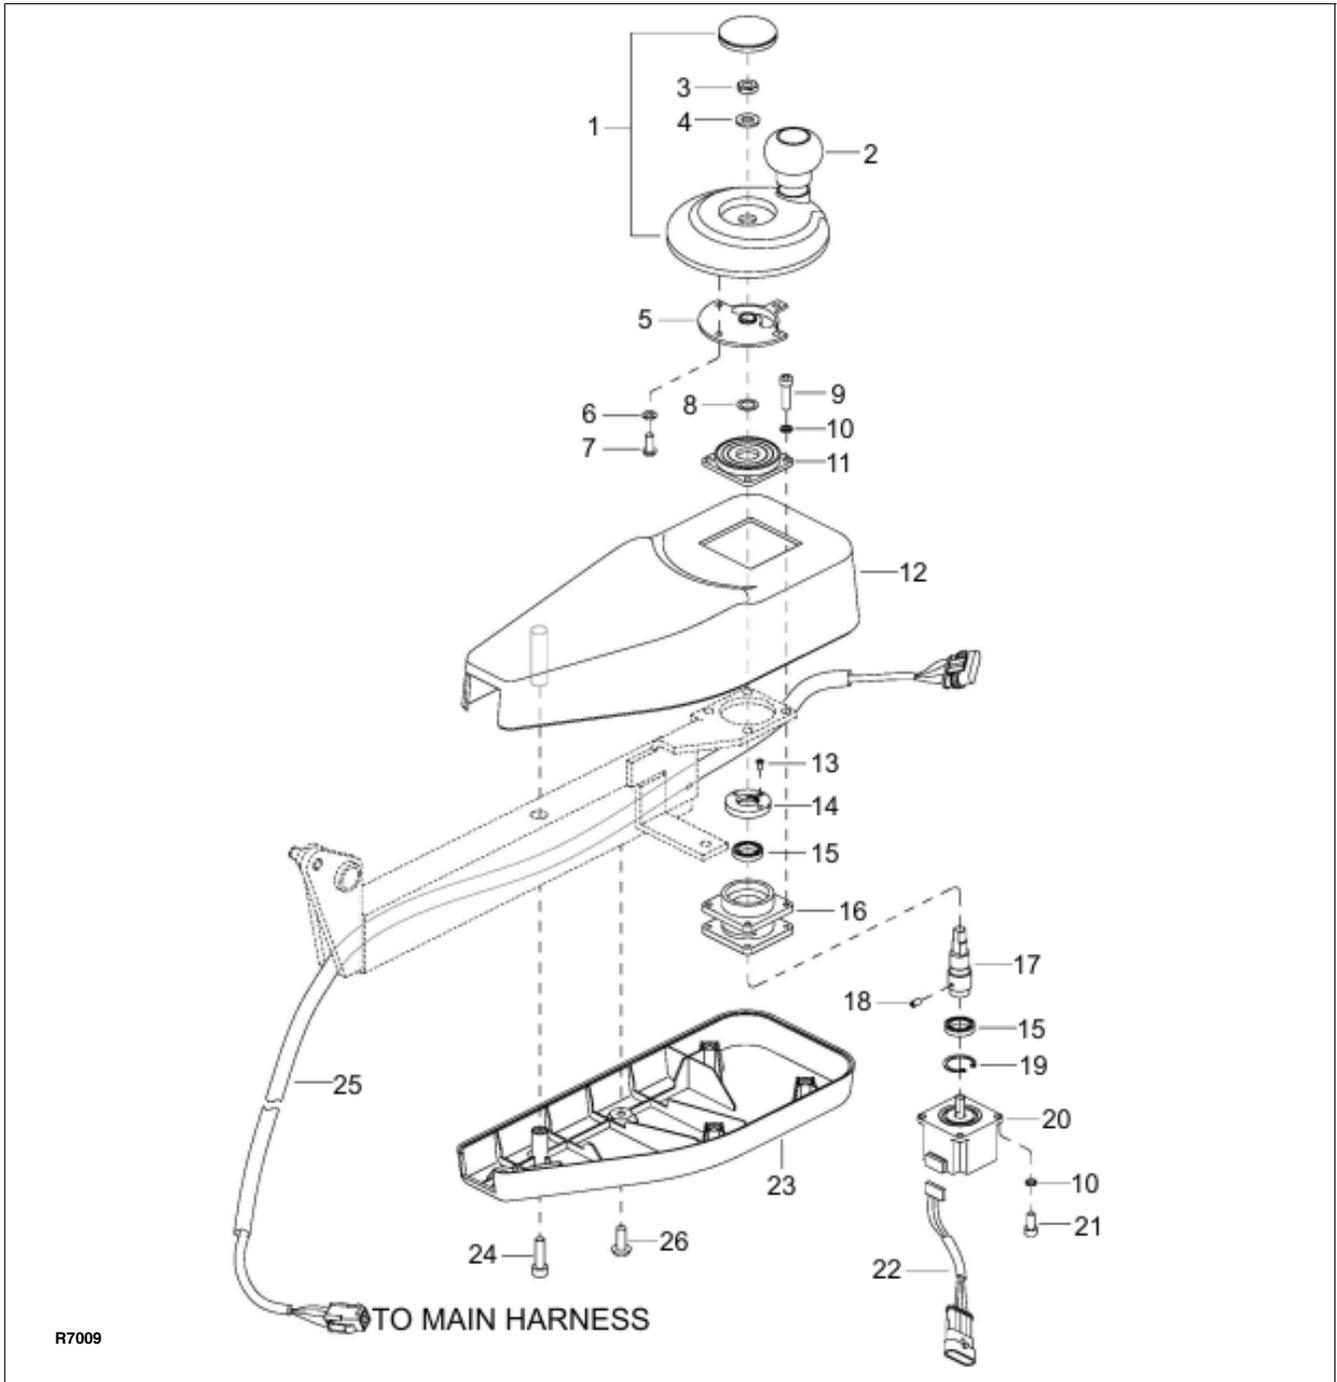

Figure 4-1 Control Arm (Left)
2. Remove four screws (24, Figure 4-1) and two screws (26). Separate lower cover (23) and upper cover (12).
1. Install lower bearing (15, Figure 4-1) and snap ring (19) on shaft (17).
2. Install shaft (17) on potentiometer (20) and secure with screw (18).
3. Position potentiometer (20) on bearing block (16) and secure with four screws (21), and four lock washers (10).
4. Install upper bearing (15), nut (14) and screw (13).
5. Position potentiometer (20) on control arm.
6. Install damper (11) and secure with four screws (9) and four lock washers (10).
7. Install bracket (5) on handle (2) and secure with four screws (7) and four lock washers (6).
8. Install shims (8) and handle (2), engaging bracket (5) with damper (11).
9. Secure handle (2) with nut (3) and lock washer (4) and install the button plug.
10. Reconnect harness (22) to harness (25) and potentiometer (20).
11. Install lower cover (23) and upper cover (12) and secure with four screws (24) and two screws (26).